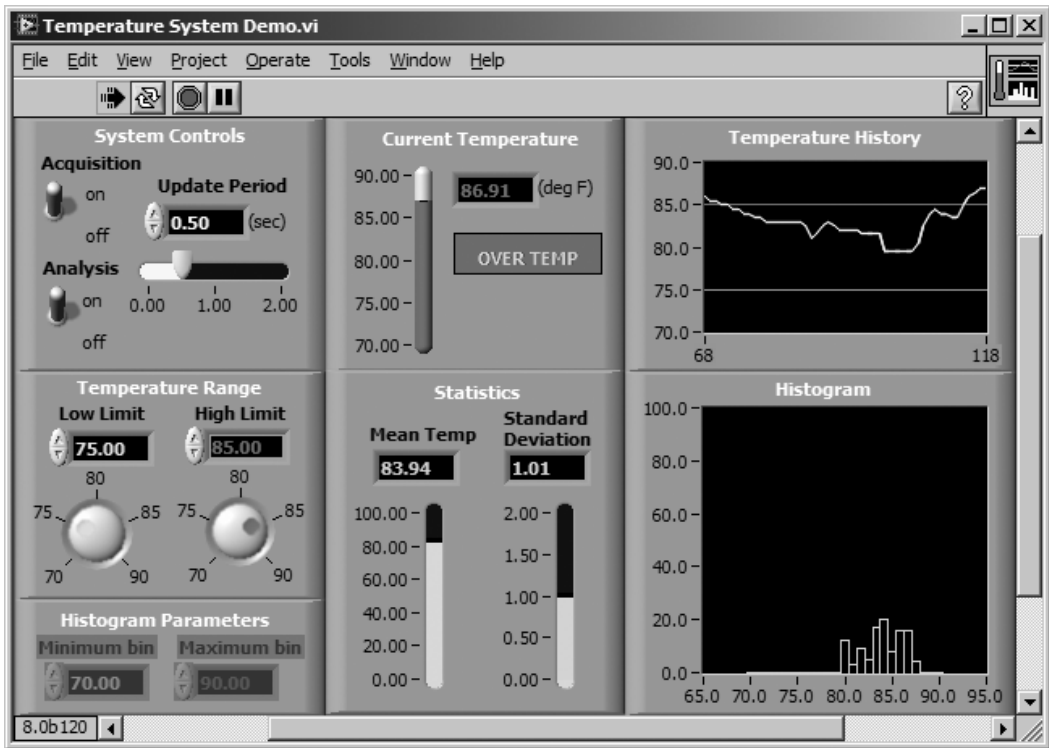

Figure 1.8
3. You will see the VI shown in Figure 1.8.